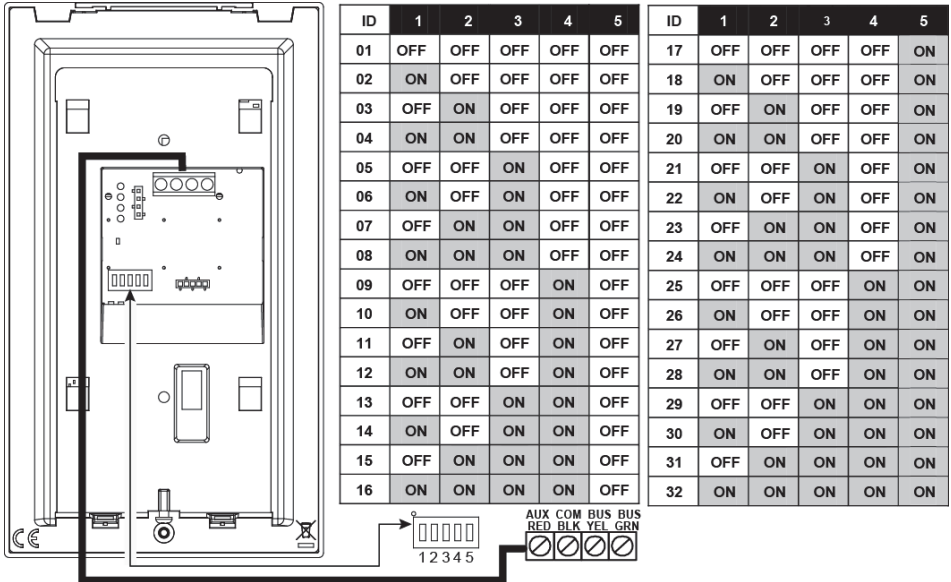

Figure 7
4. Connect the wires to the (AUX, COM and BUS) connector shown in Figure 7.
Use DIP switches 1 to 5 to define the BUS ID of each accessory / detector according to the table in Figure 7.